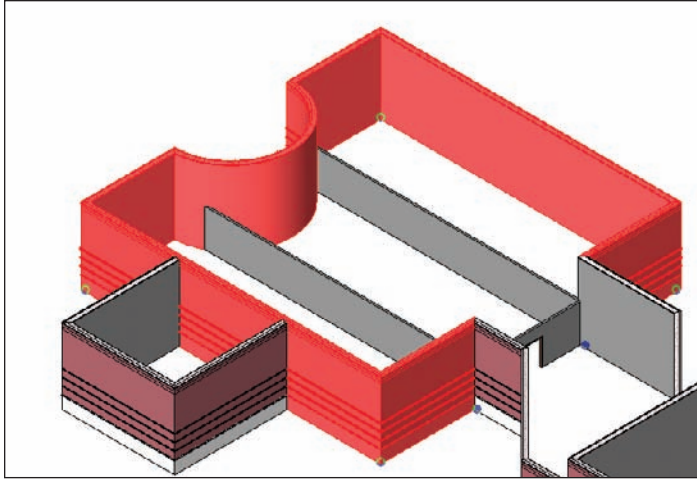

FIGURE 3.28 Selecting the west part of the building
2. In the 3D view, select the west side of the building, excluding the corridor and the three walls to the south, as shown in Figure 3.28. (You will need to press and hold the Ctrl key for multiple selections.)